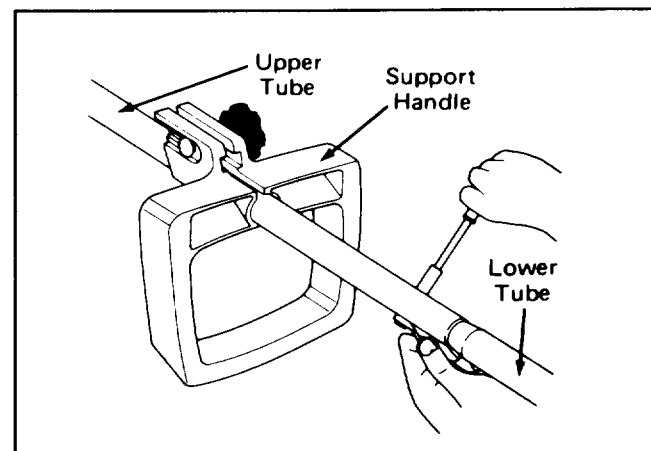

**Figure 3**
3. Slide lower tube into upper tube and align screw holes (Fig. 3). Check alignment of handgrip and housing (Fig. 3, insert).